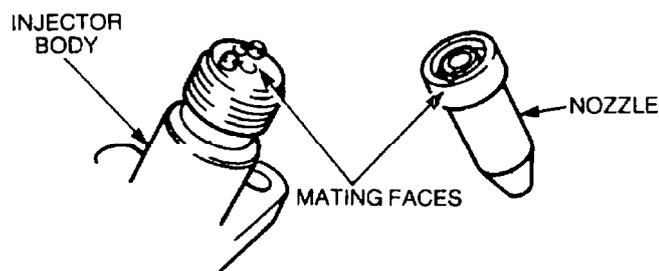

Figure 140 Inspecting the Injector Mating Faces
- g. Inspect the mating faces of the nozzle and the body, these should be smooth and free of scratches or scores (Figure 140). Replace the injector assembly if these components are faulty.